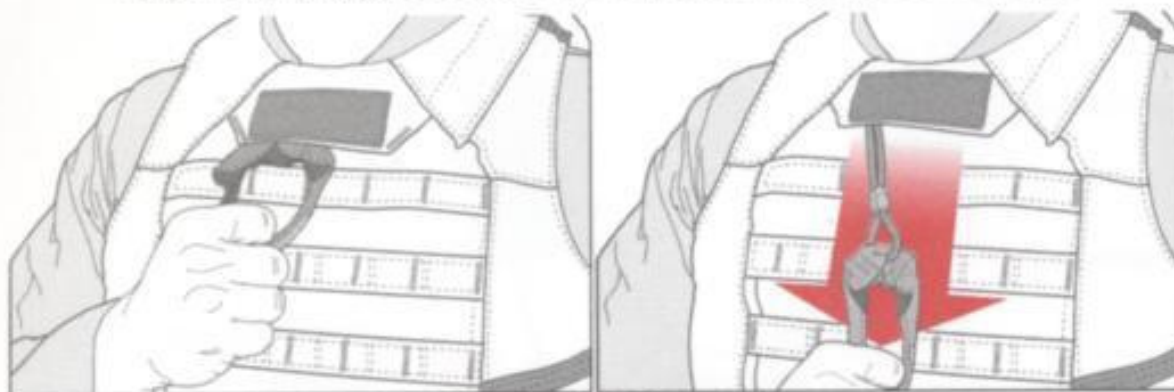

Fig. 18. IOTV Quick-Release process.
1. Grasp the quick-release loop on top center of the Front Carrier and pull as shown in **Fig. 18 (STRAIGHT DOWN)**. The IOTV will separate into front and rear halves.